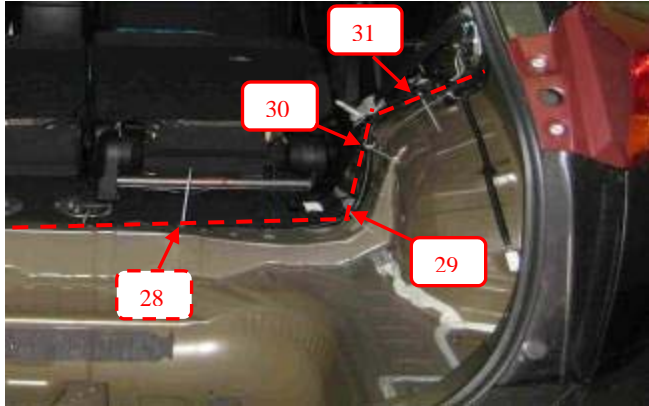

Figure 3-6
- e) Continue routing trailer wire harness along vehicle wire harness as shown in Figure 3-6.
8" WIRE TIE x 3  (Figure 3-6)